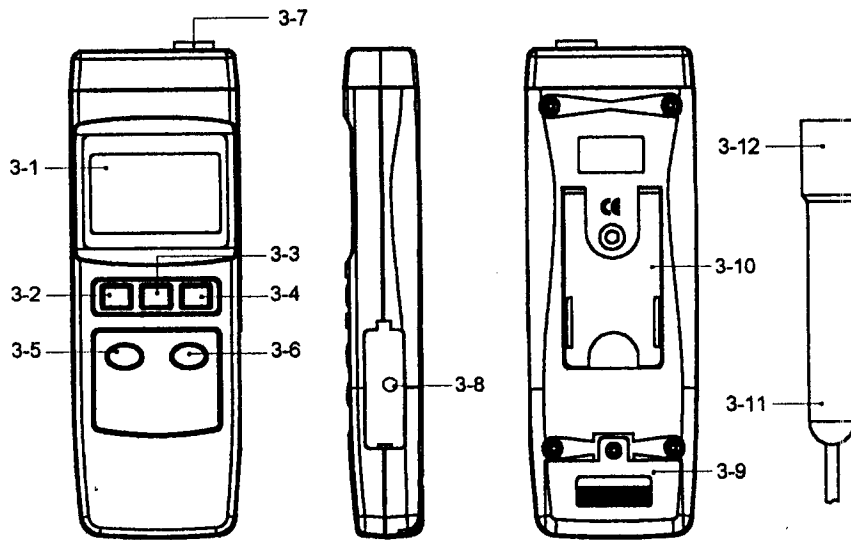

Fig. 1
- 1) Connect the " Conductivity Electrode " (3-12, Fig. 1) to the " Electrode Input Socket " (3-7, Fig. 1).
- 3) Slect the " 2 mS range " or " 20 mS raange " by pressing the range button (3-5, 3-6, Fig. 1).
- 4) Hold the " Electrode Handle " (3-11, Fig. 1) by hand & let the Conductivity Electrode (3-12, Fig. 1) is immersed wholly into the measured solution. Shake the Electrode several time to let the air bubble leave away from the electrode and let the reading value is stable. Display will show the conductivity mS values.
- 2) Pressing the range switch to " 2 mS range " (3-5, Fig. 1) position.
- 3) * Hold the " Electrode Handle " (3-11, Fig. 1) by hand & let the " Conductivity Electrode " (3-12, Fig. 1) is immersed wholly into the above " 1.413 mS Calibration Solution " .
- * Adjust the " Calibration Adjust VR " (3-8, Fig. 1) until display show the value same as 1.413 mS exactly.
- 2) Slide the " Battery Cover " (3-9, Fig. 1) away from the instrument and remove the battery.